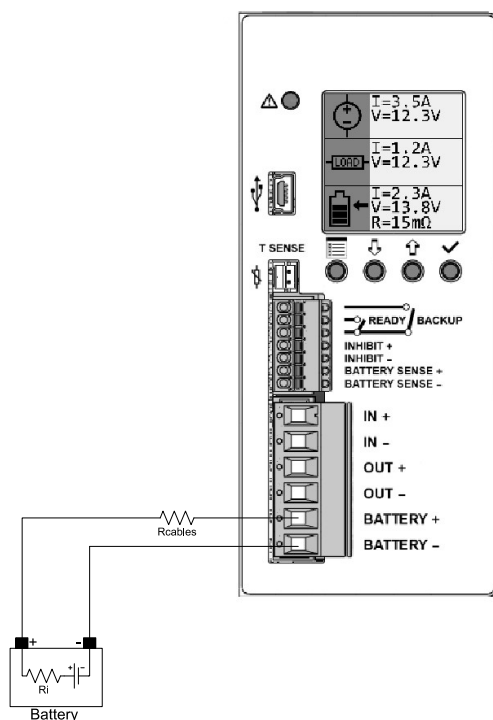

Figure 9: Battery connection without sense
**Without using the battery sense connection** as shown in Figure 9 the AC voltage drop is measured across the battery connection terminals on the DCU20. The measured resistance will be in this case: